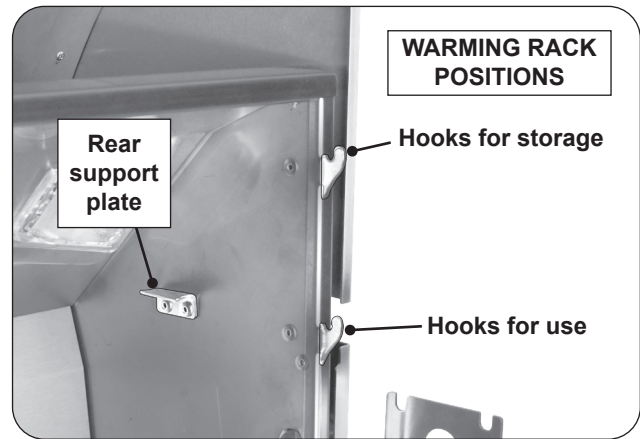
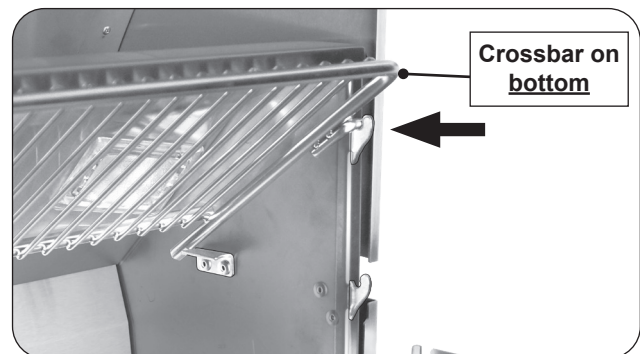

Fig. 28-1 Warming rack hooks
Fig. 28-3 Place warming rack in storage position
1. Locate the warming rack hooks and rear supports found on the upper portion of the grill oven (see Fig. 28-1).
Use the top hooks for storage (see Fig. 28-1 and Fig. 28-3).